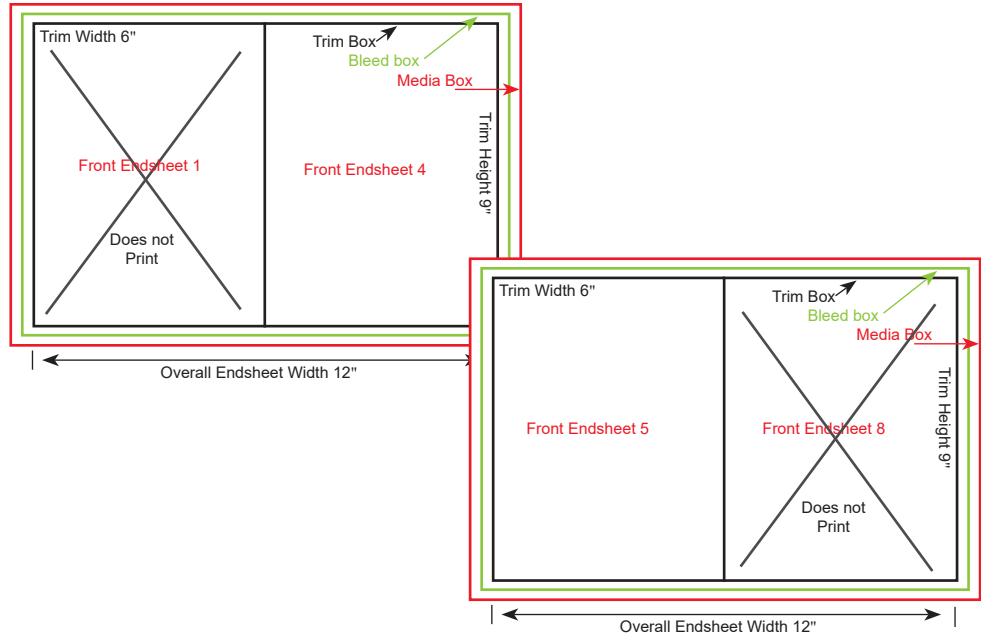

Figure 9
- Endsheets: If one endsheet of the spread does not print the file must still be submitted as a spread. The endsheet not printing will be blank. Endsheets 1 and 8 never print as these will be the sides glued to the inside of the cases. (See Figure 9)